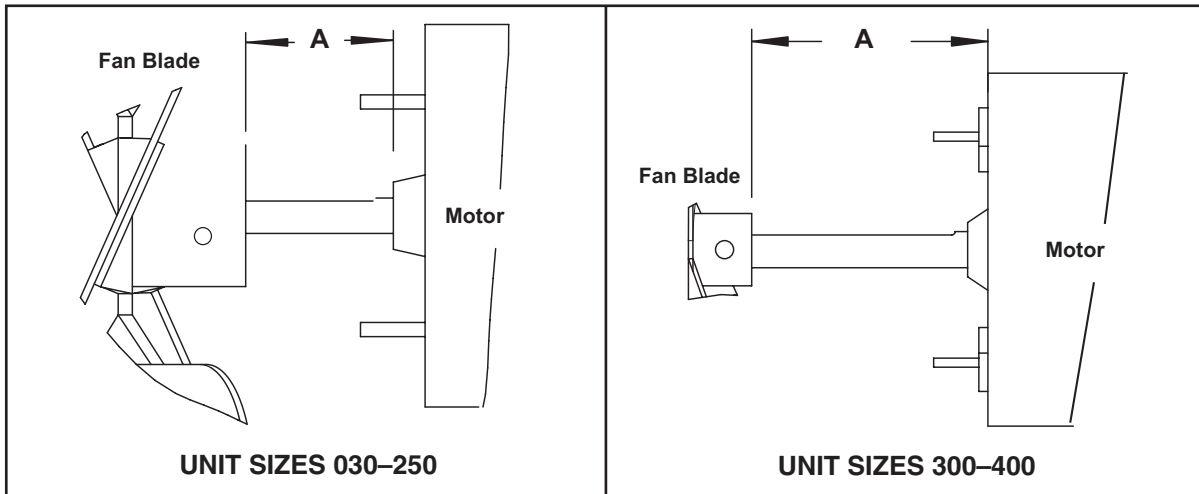

Figure 17. Fan Blade Positioning and Spacing
6. Ensure that fan blade is in proper position on shaft (see Figure 17) and that blades are properly spaced (refer to Table 18).
*See Figure 17.